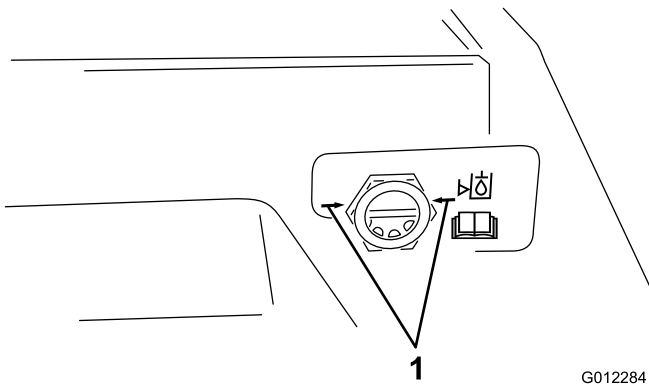

Figure 14
2. Look into the sight glass (Figure 14). The oil level should be even with the arrows when checking warm oil. The oil will be 1/4 to 1/2 inch (6 to 12 mm) below the arrows when cold.
- C. Remove cover and add hydraulic oil until it is even with arrows on sight glass (Figure 14).